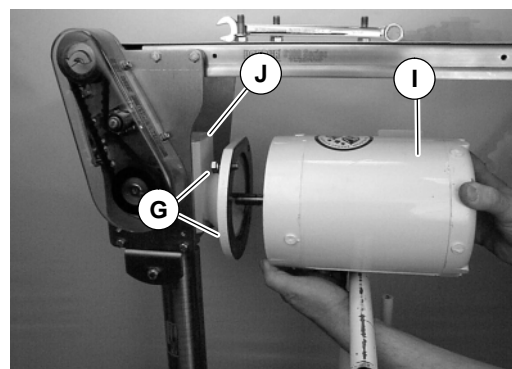

Figure 11
10. Attach gear motor (I of Figure 11) to gear reducer (J) with screws and washers (G of Figure 10). Tighten to 41 Nm.